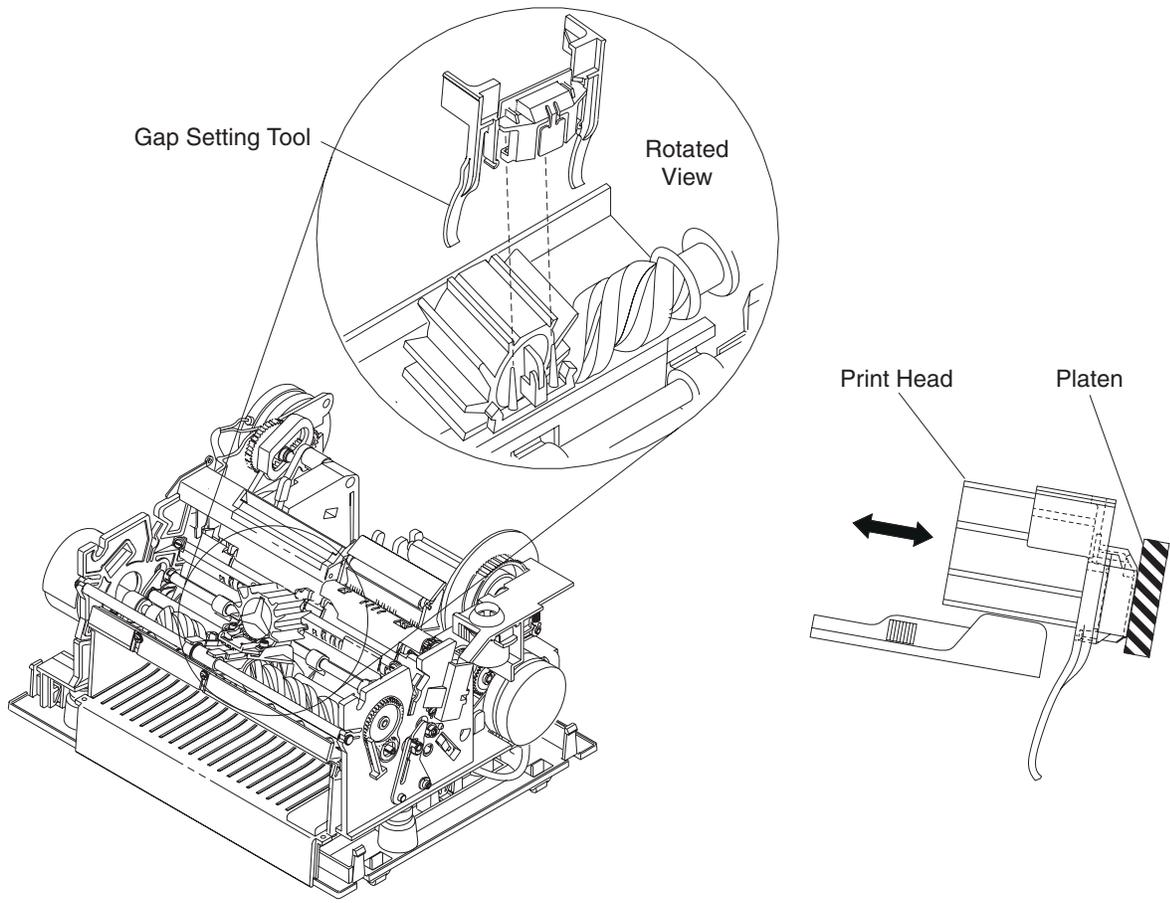

Figure 6-56. Print Head Adjustment. The print head and its gap setting tool are shown on the right.
- 3 Use the gap setting tool as shown in Figure 6-56 on page 6-85 to set the correct gap between the print head and platen. Latch the tool in front of the print head as shown and move the print head forward on the carrier until the tool is flush with the platen.